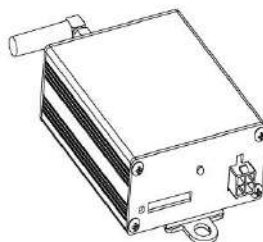

Fig.8
3.7 GSM remote controller (Optional device, see Fig.8)
Please make sure that there are not any interference objects in the gap between the bottom surface of the main heater and the installation surface of the vehicle (Fig. 8-F).